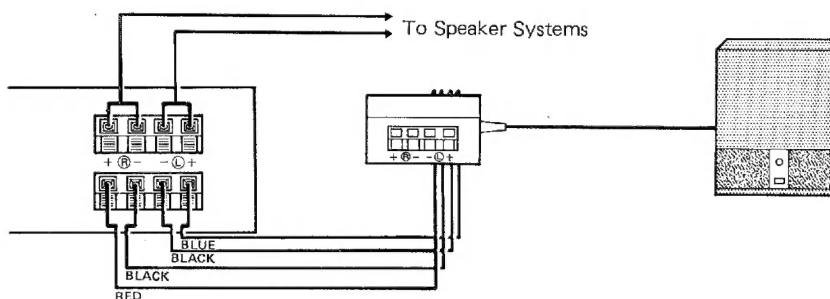

Fig. 2
2. If your amplifier does have terminals for both A and B speaker pairs, connect the NS-W1 and one pair of speakers to the mixing adaptor as shown in Fig. 2. Connect the mixing adaptor to either the A or B speaker terminals on the rear panel of your amplifier as shown. Connect the other pair of speakers directly to the speaker terminals on the rear panel of your amplifier. Connecting the NS-W1 in this way allows you to listen with or without Super Woofer performance, according to the A or B speaker pair selected with the amp's front panel speaker selector.